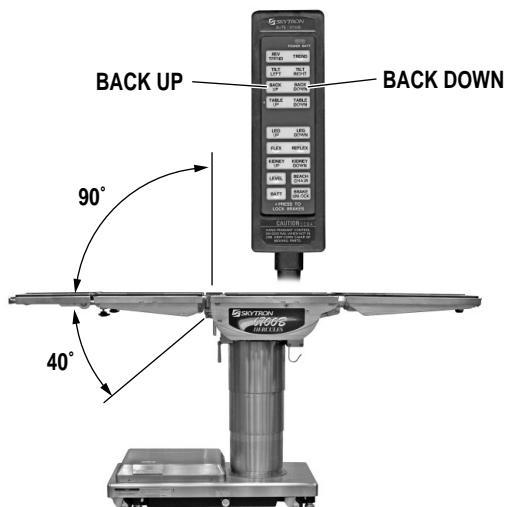

Figure 2-8. Back Section Positioning
**d. Back Section.** To raise the back section, press the BACK UP button (figure 2-8). The back section will raise up to 90° above horizontal. To lower the back section, press the BACK DOWN button. The back section will go down to 40° below horizontal.